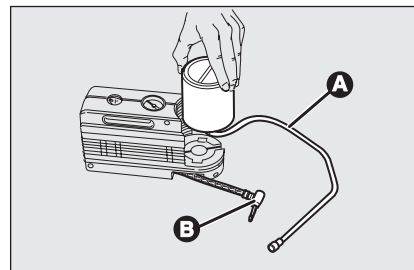

fig. 21
- ☐ disconnect connection **B**-**fig. 21**;